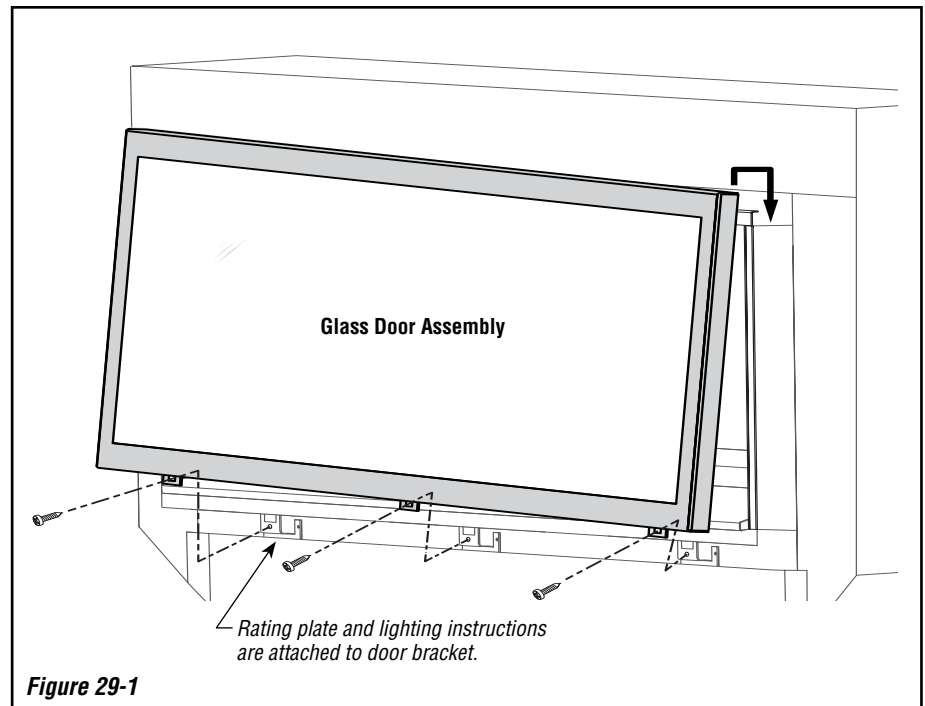

Figure 29-1
1. While holding the door assembly by the side edges, hook the top edge to the fireplace, and then swing the bottom edge in toward the fireplace, *taking care not to damage the glass (Figure 29-1).*
2. Align the screw holes below the door assembly with the holes in the fireplace, and secure using the (3) provided screws.